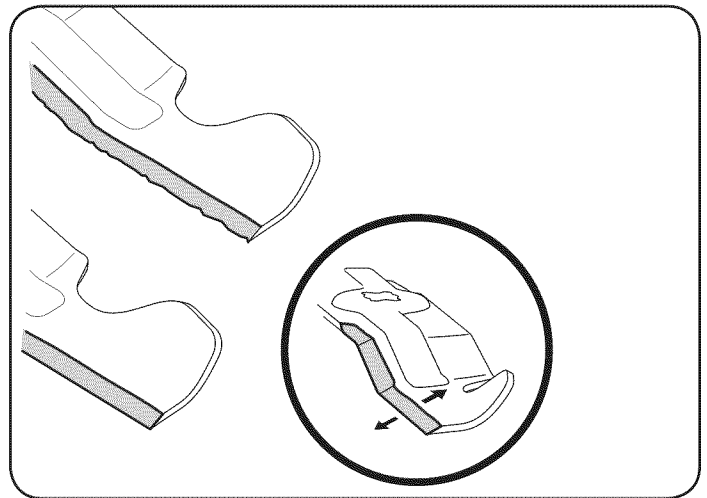

Figure 20
4. To properly sharpen the cutting blades, remove equal amounts of metal from both ends of the blades along the cutting edges, parallel to the trailing edge, at a 25° - to 30° angle. Always grind each cutting blade edge equally to maintain proper blade balance. See Figure 20.